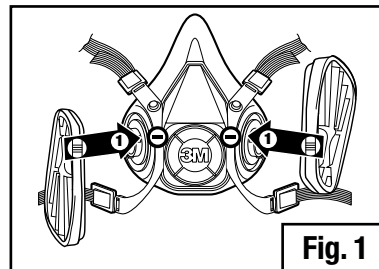

Fig. 1
1. Align notch on edge of 603 adapter with facepiece mark as shown (Fig. 1).